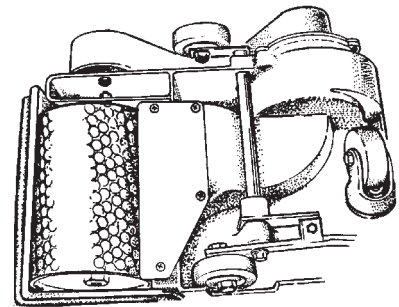

Figure 12b
5. Align the dust shoe with the drum and tighten screws. See figure 12b.